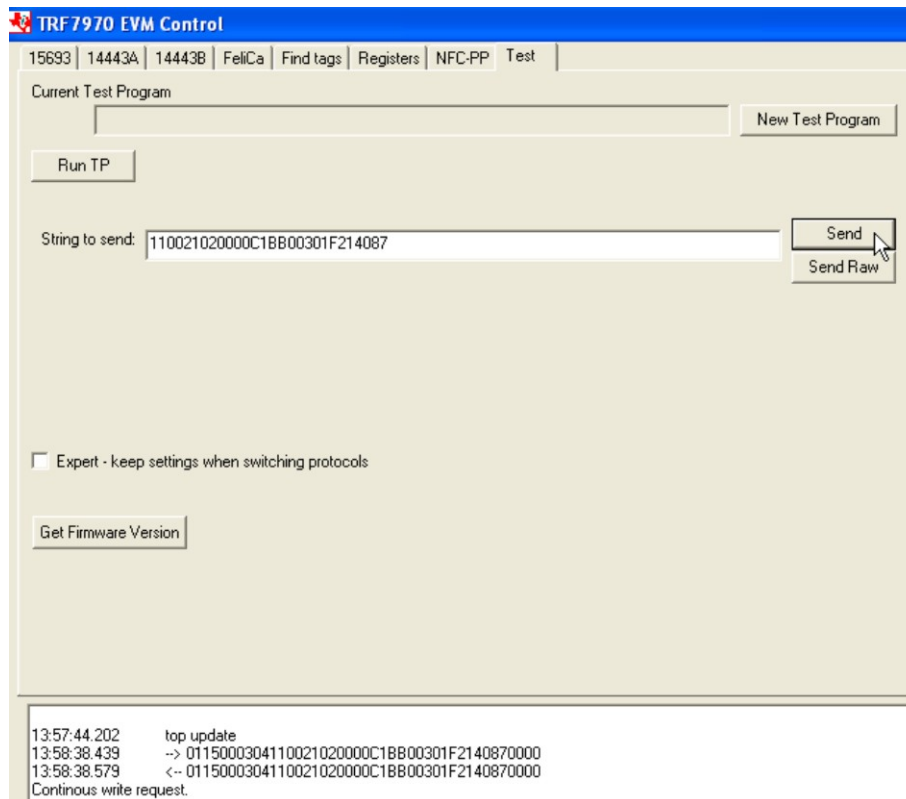
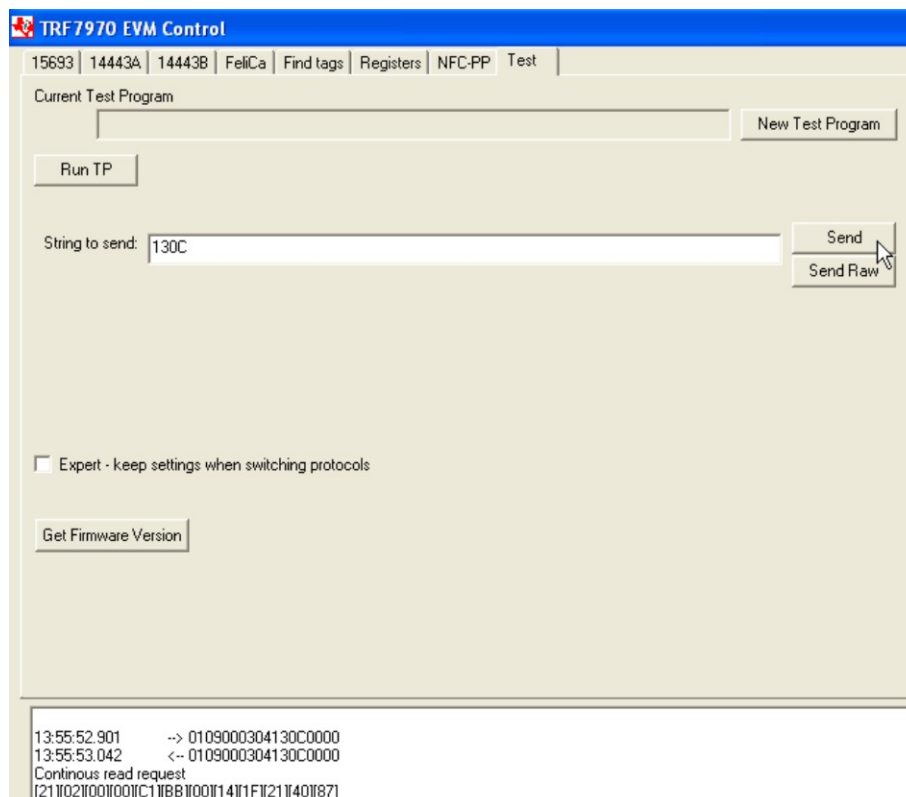

Figure 39. Continuous Write to Registers 0x00 to 0x0B Example
Figure 40. Continuous Read from Registers 0x00 to 0x0B Example
1. For observing a read or write continuous to the registers of the TRF7970A during code development with a logic analyzer. These examples are using the Send button which adds on the necessary bytes before and after data to send strings are entered. This example is setting up the TRF7970A for full power out and ISO15693 operation (see Figure 39 and Figure 40).